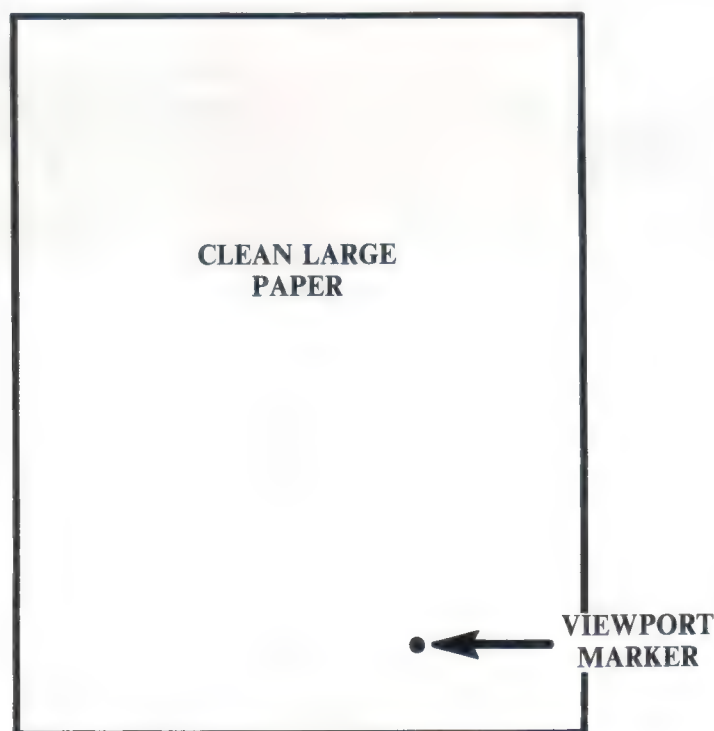

FIGURE 2-7
5. In this step, you will reproduce the design that was clipped in step 3. DO NOT PRESS LARGE OR SMALL (RESET) until after the Plotter has drawn the clip design or the new Window limits will default to full page. Use the MANUAL MOVEMENT KEYS to drive the paper to load position. (Load position is where the edge of the paper is aligned with the front edge of the platen as shown in Figure 1-6.) Remove the paper from the Plotter and replace it with a clean sheet of large paper or use the backside of the used sheet. After changing paper, use the MANUAL MOVEMENT KEYS to move the Pen Holder to the position of the Viewport marker illustrated in Figure 2-7. (This is the point where the Plotter will draw the plot design above and to the right of.) After the Pen is positioned, initiate the Self-Test routine by pressing the ↑ and the ↓ buttons simultaneously. (The Plotter will pause before and during the Self-Test plot. As explained in Section 2.6.1, pen pause is normal when clipping plot designs.) The only design the Plotter will draw is the clipped logo from the Self-Test plot.